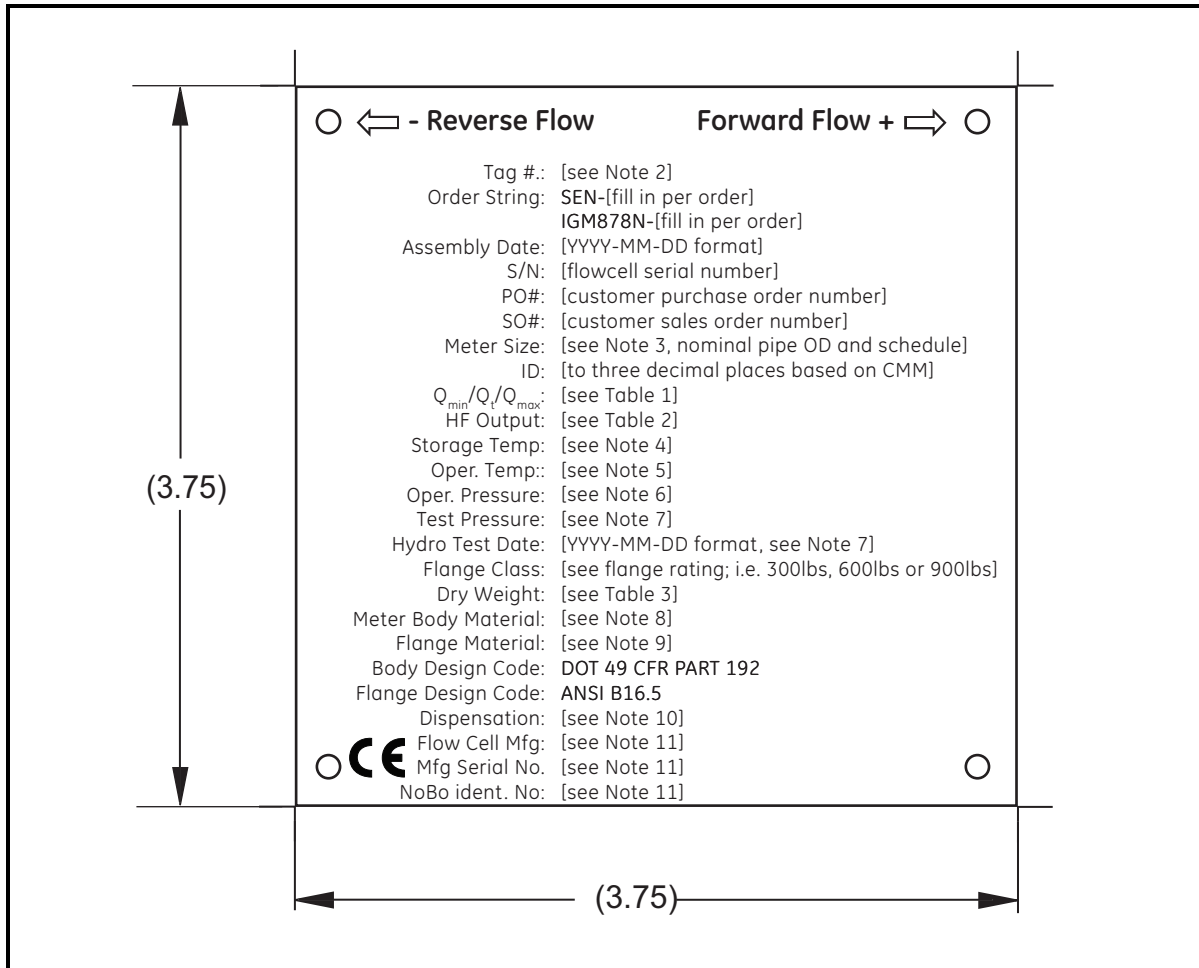

Figure 1: Specification Tag (ref. dwg #442-959B)
3. Verify the tag on the meter reads all of the correct information. Ensure that the tag is in the correct format (reference Figure 1 on page 2 and Figure 2 on page 3).